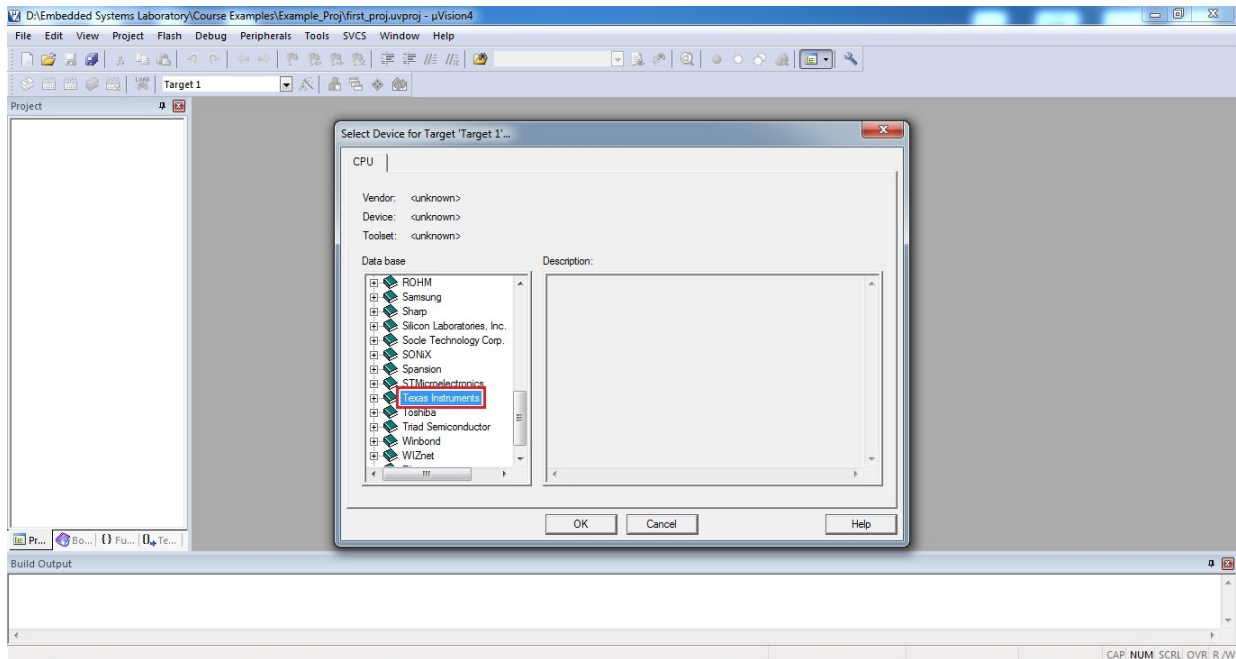

Figure 1.10: Select the manufacturer of your microcontroller
4. To select a microcontroller double click on *Texas Instruments* and select **TM4C123GH6PM** or **TM4C1233H6PM** depending upon your microcontroller. Click *OK*.(See Figure 1.10 and 1.11)